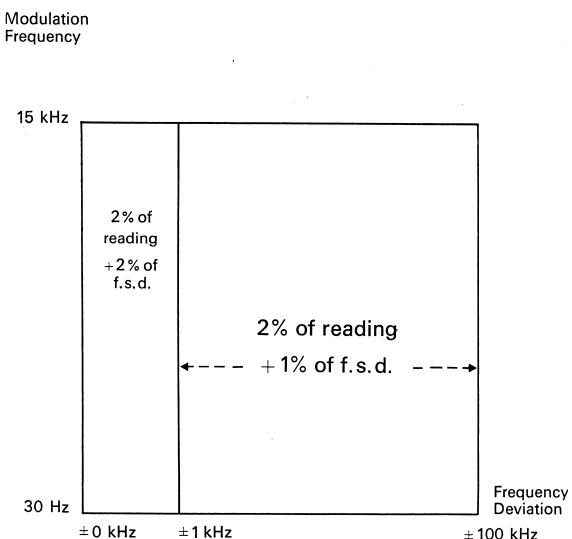

Fig. E3. Accuracy of frequency deviation measurements.
- 11) In order to obtain the best accuracy, select the low-pass filter corresponding to the modulation frequency of the signal under test. See Fig.E3, and refer to SECTION B - SPECIFICATIONS under "FM MODULATION - Accuracy".